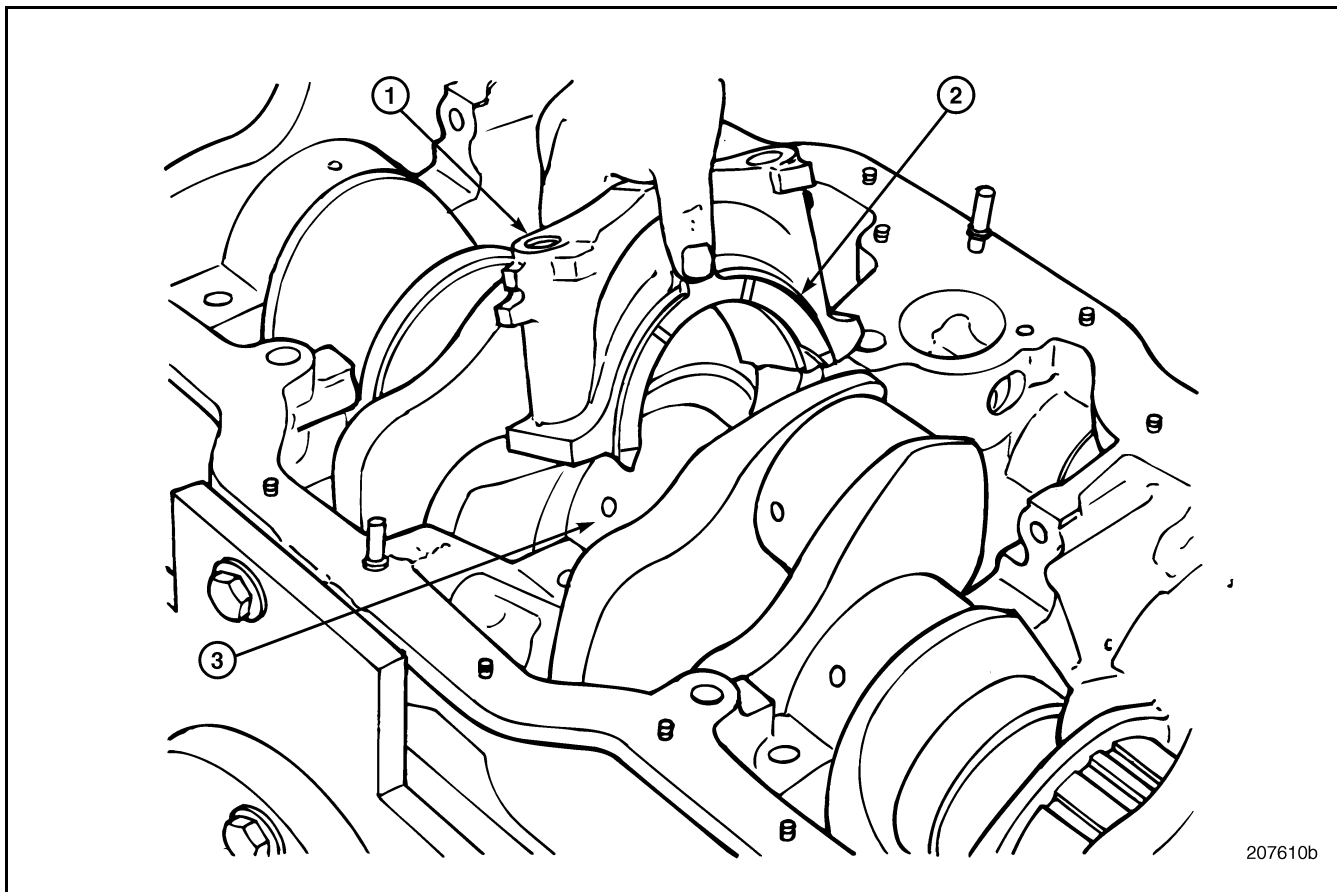

Figure 326 — Main Bearing Cap/Thrust Washer Installation
10. Position the lower thrust washer sections on the center bearing cap (aluminum-faced or bronze-faced side with oil reservoir grooves and tip-face reliefs toward crankshaft) and install the cap (Figure 326). Torque the capscrews to specification, 210 lb-ft (285 N•m), using torque wrench J 24407, or equivalent.